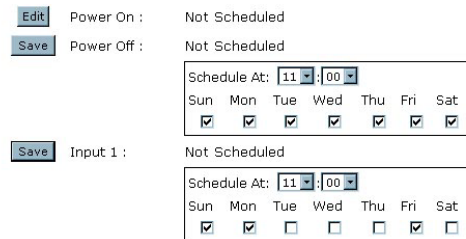

Figure 4-13— Pioneer Schedule calendar
3. Click Edit to view the calendar options and schedule the time and date of the weekly event (figure 4-13).
Using the Monitor page (figure 4-13), you can monitor power levels, internal temperature and usage of the Pioneer plasma. An email notification can be sent to a recipient when specified conditions are met or exceeded.